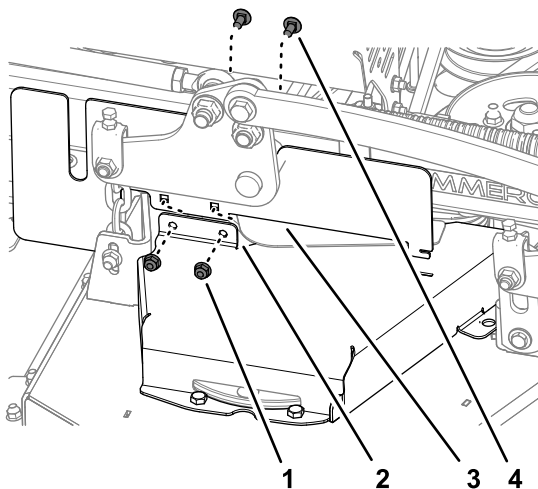

Figure 41
2. Assemble the right side CE cover to the right belt cover (Figure 41) with the 2 carriage bolts and 2 lock nuts that you removed in Removing the Left Belt Cover (page 26).